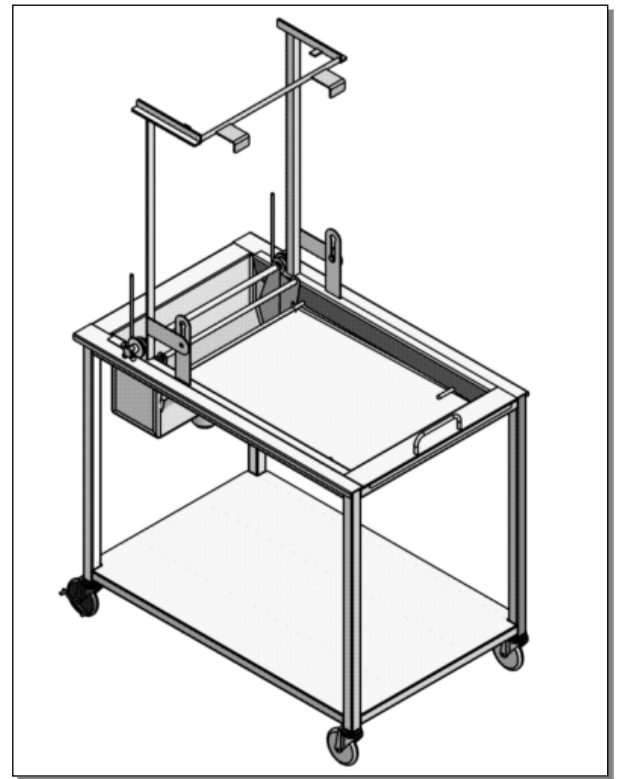

Figure 14, Filling Position
2. TILT the **Upper Frame** assembly up, placing the **Glaze Applicator** into the **Glaze Reservoir** (See Figure 14.)